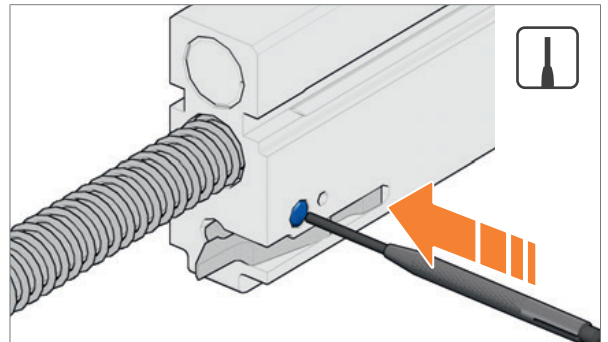

Fig. 106: Remove locking pin
3. Press the locking pin out of bolt head carrier with a pointed object and remove it (Fig. 106).